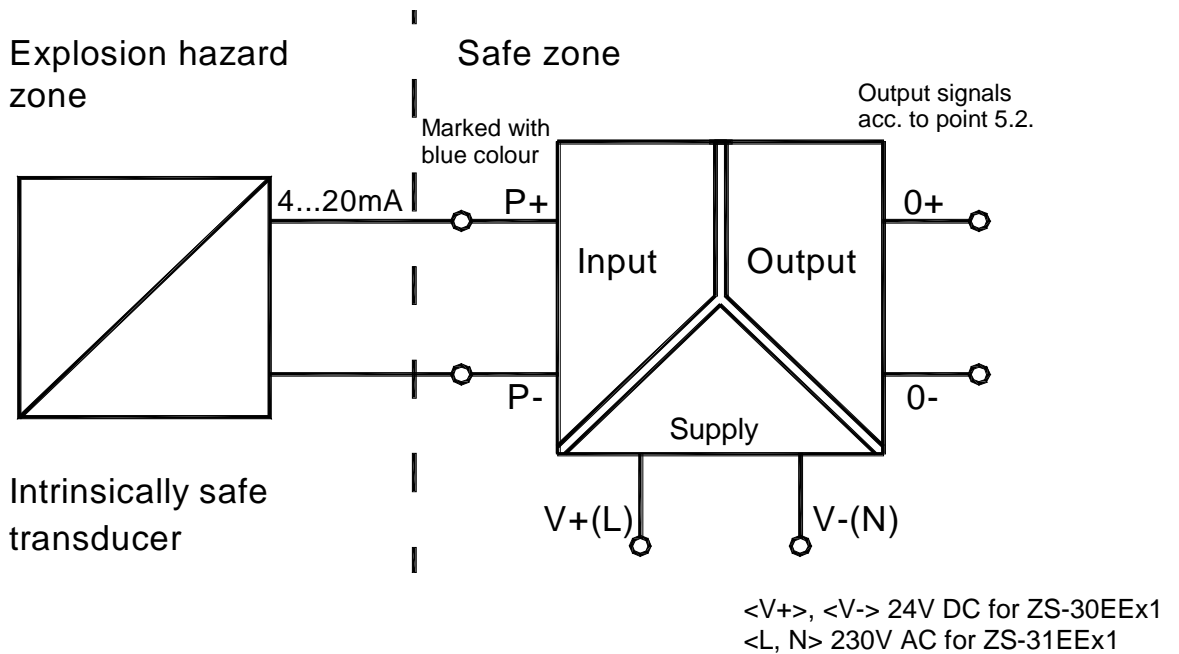

Fig. 3. Block diagram of ZS-30EEx1 and ZS-31EEx1 repeater power supply.
8.2. ZS-30EEx1 and ZS-31EEx1 repeater power supply should be connected in accordance with fig. 3.